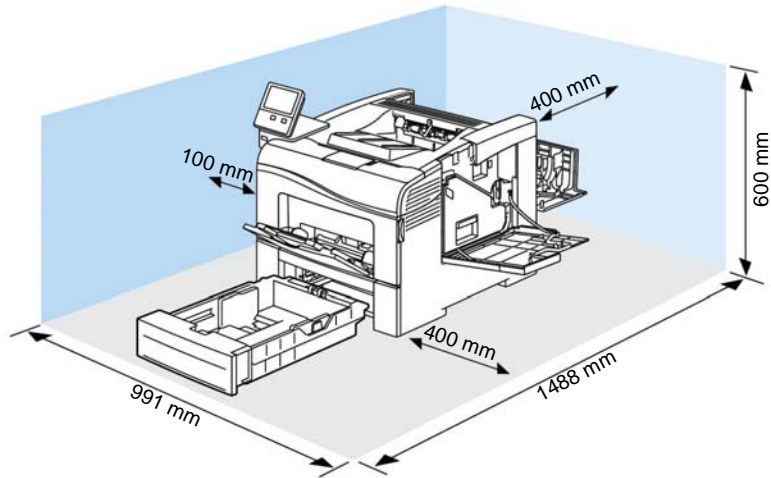
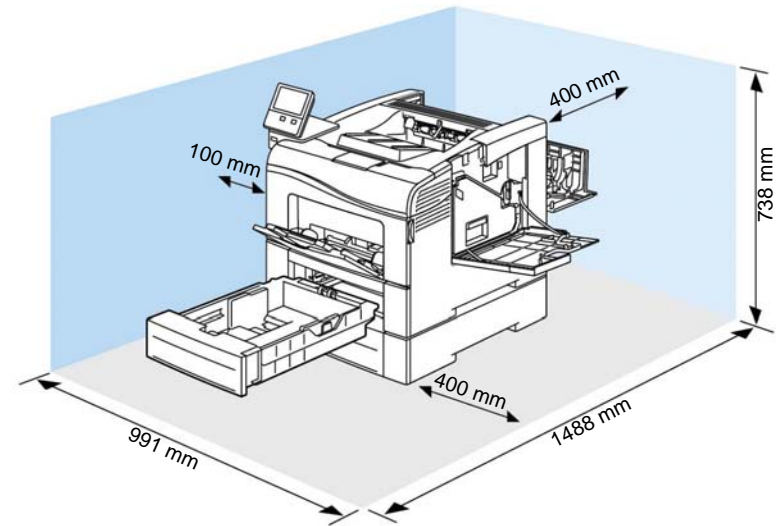

Figure 7 Minimum clearance
Figure 8 Minimum clearance w/option 550
1. In order to function correctly, the device must be placed on a flat surface with the following minimum clearances shown in Figure 7 and Figure 8 with the optional 550-sheet feeder.